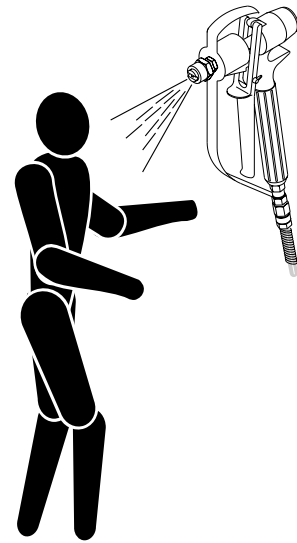

Fig.22
7) The spray gun **MUST NEVER** be aimed at people (fig.22) or objects that are not involved in the operations. Any kind of operation should be carried out with the **gun facing downwards**